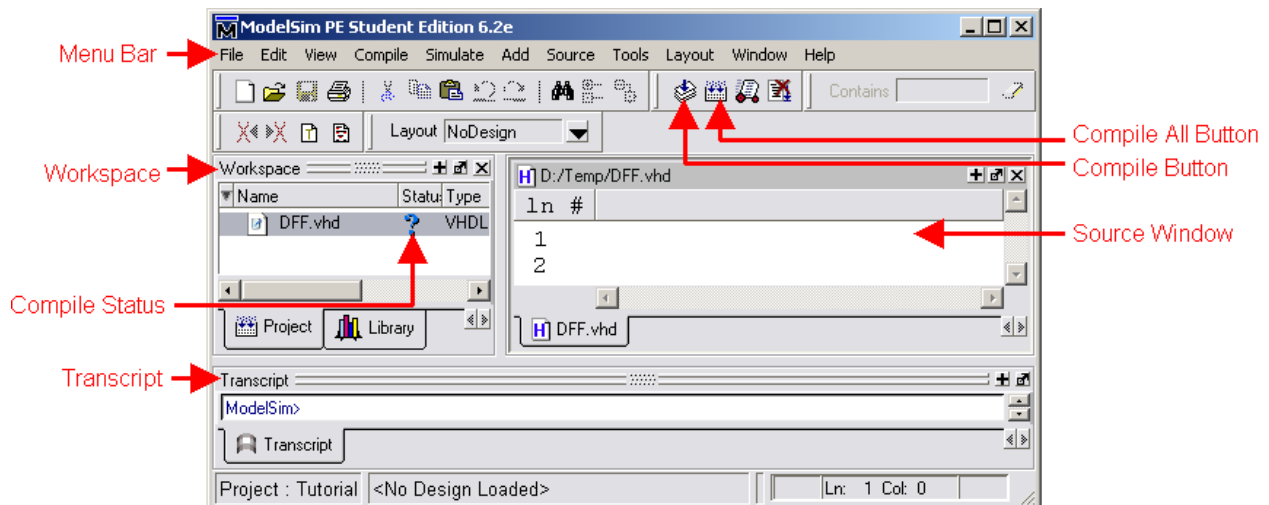

Figure 5: ModelSim's Interface
4. In the workspace window of the main interface (see Figure 5), double-click on the file you have just created (DFF.vhd).